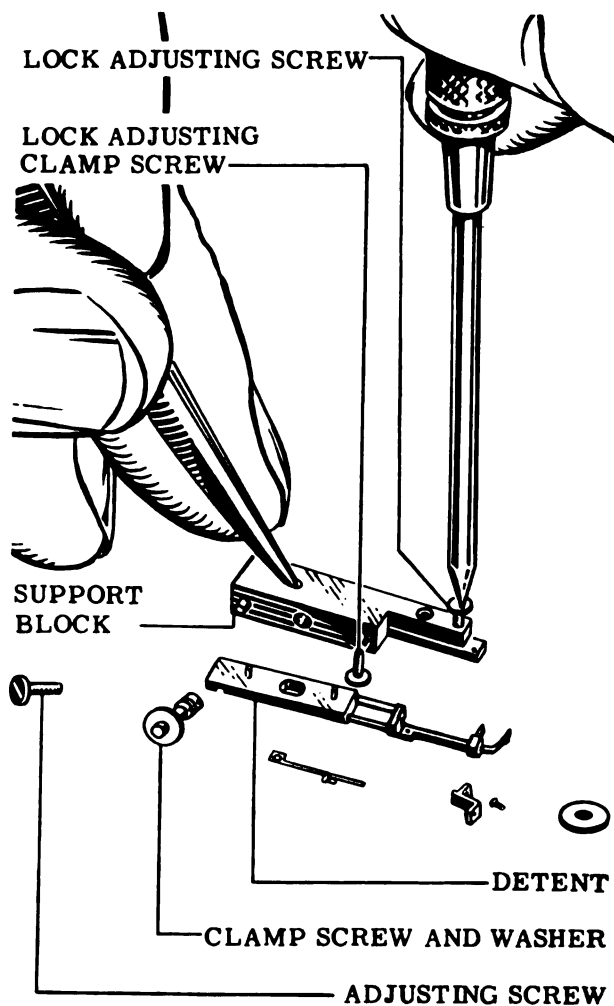

Figure 56
9. Remove detent lock adjusting screw. See Fig. 56 for final disassembly.
1. Replace detent lock adjusting screw. See Fig. 56 for beginning of reassembly.